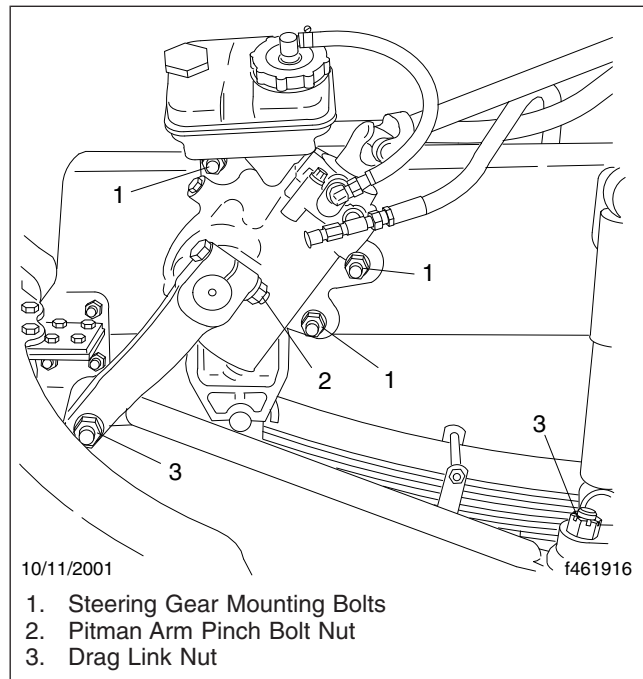

Fig. 11.11, Integral Steering Gear Fasteners
- 5.1 Inspect tie rods, steering arms, and the drag link for signs of looseness (i.e., shiny spots or rust tracks). See Fig. 11.11.